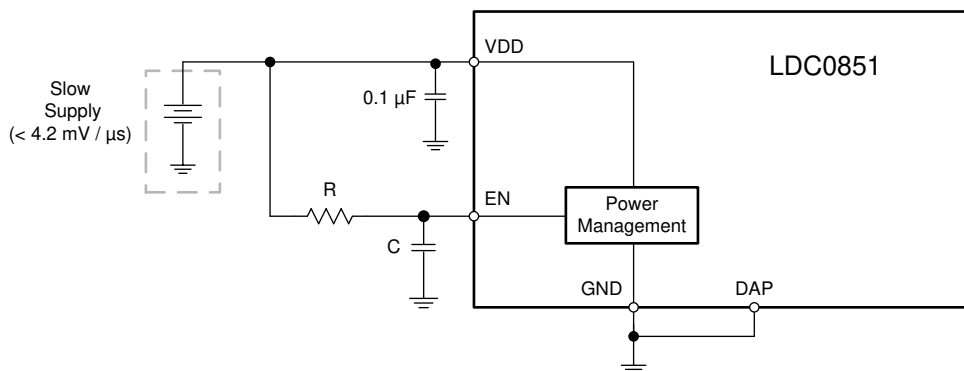

図 7-9. Supply Connections for Slow Ramp Rate
For supply ramp rates slower than 4.2 mV/ μs , an RC low pass filter must be added to the enable input (EN) as shown in 図 7-9. Alternatively, the EN pin may be tied to a nanotimer or microcontroller to wake up the LDC0851 after VDD has ramped to its nominal value.